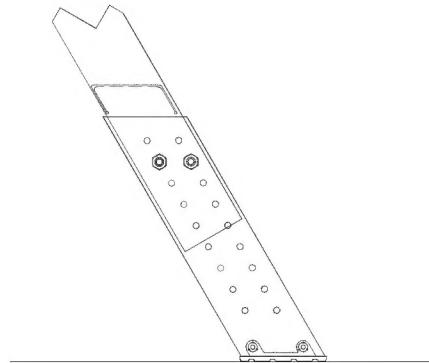

Figure 9
14. Slide the adjustable shoe onto the bottom rail. Align the holes in the adjustable shoe with the closest set of holes in the side rails so that the shoes are flat on the ground and there are no gaps between the sections. See Figure 9.
16. Attach the adjustable shoes using (2)  $\frac{1}{4}$ " bolts, washers and locknuts per side.